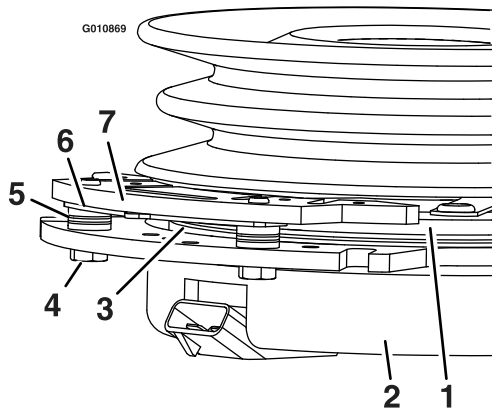

**Figure 63**
3. Remove the dust cap from caster and tighten the locknut (Figure 63).
4. Tighten the locknut until the spring washers are flat and then back off a 1/4 turn to properly set the pre-load on the bearings (Figure 63).
**Important:** Make sure the spring washers are installed correctly as shown in **Figure 63**.
5. Install the dust cap (**Figure 63**).